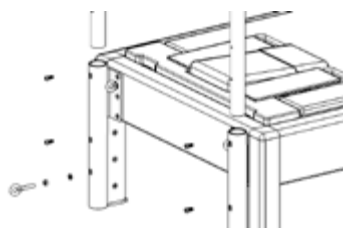

Figure 14
1. Remove the Tower tubes with Push Through Bar from the box. Do not cut the tie between the Push Through Bar and the tubes or else it can swing when lifting and hit you or someone else. On the outside of the two vertical tubes there will be (2) threaded holes, these will face out away from the machine when installed.
2. Insert the tubes into the tower brackets on the head end of the machine, making sure the threaded holes are facing you when installing. Lower the tubes carefully all the way down the tower brackets. They will touch the ground. See Figure 14.